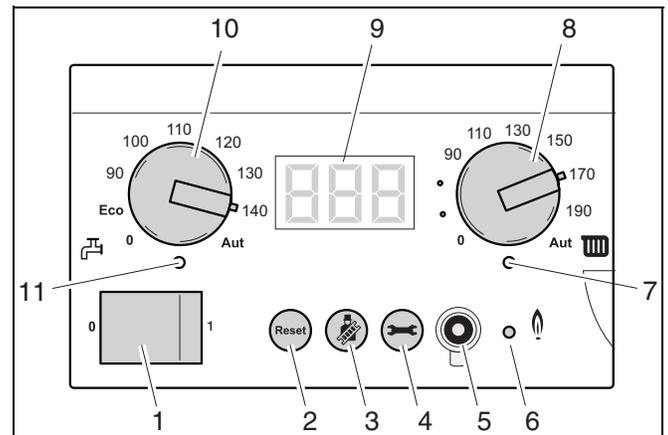

Fig. 70 BC10 basic controller
- Set the DHW temperature knob (fig. 70, pos. 10) to the required temperature of the hot water in the hot water cylinder (see table 16).